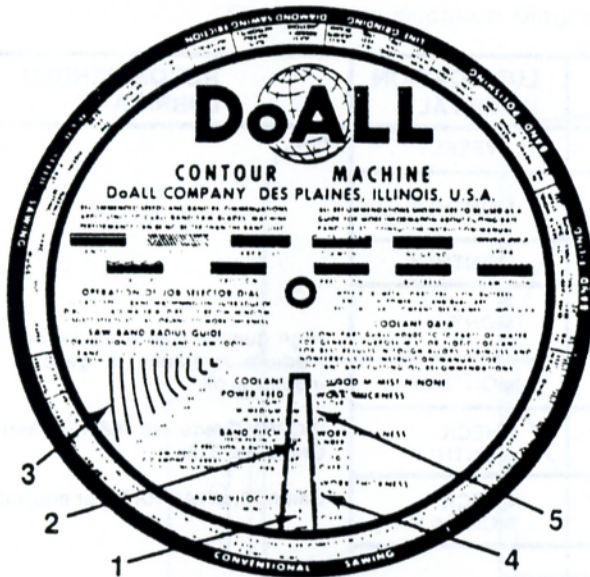

FIG. 15A. JOB SELECTOR NUMBERS REFER TO STEPS IN TEXT.
- (1) Turn dial until material to be cut is directly below cover window as shown in Fig. 15A.